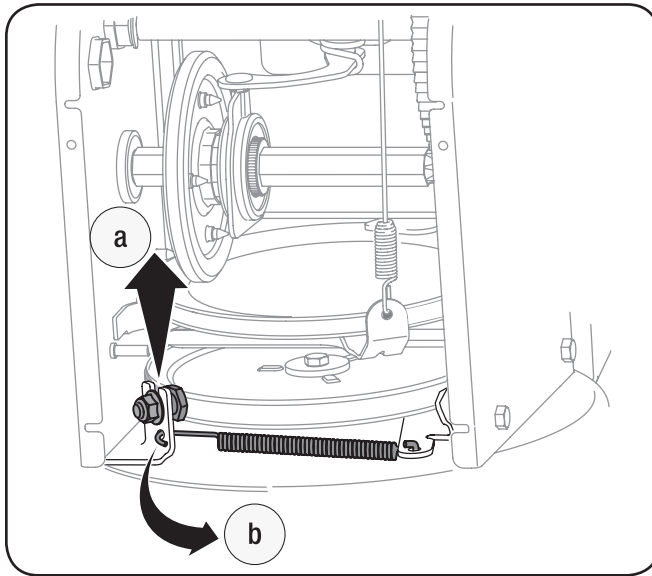

Figure 7-4
6. Remove the belt as follows. See Figure 7-4.